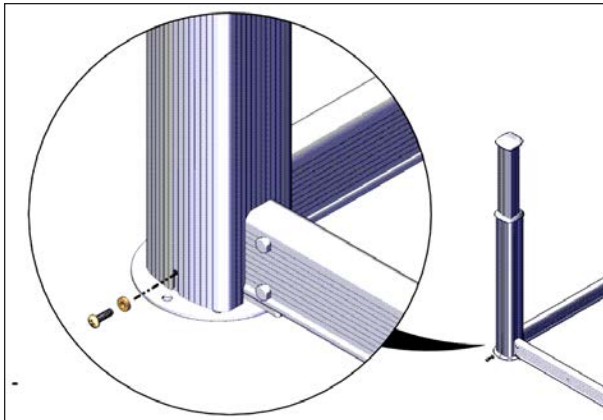

FIGURE 59: MOUNTING SCREW ON THE SLEEVE
20. Fasten the sleeve with the Phillips M6 x 20 mm screws at the bottom of all four sleeves see Figure 59.